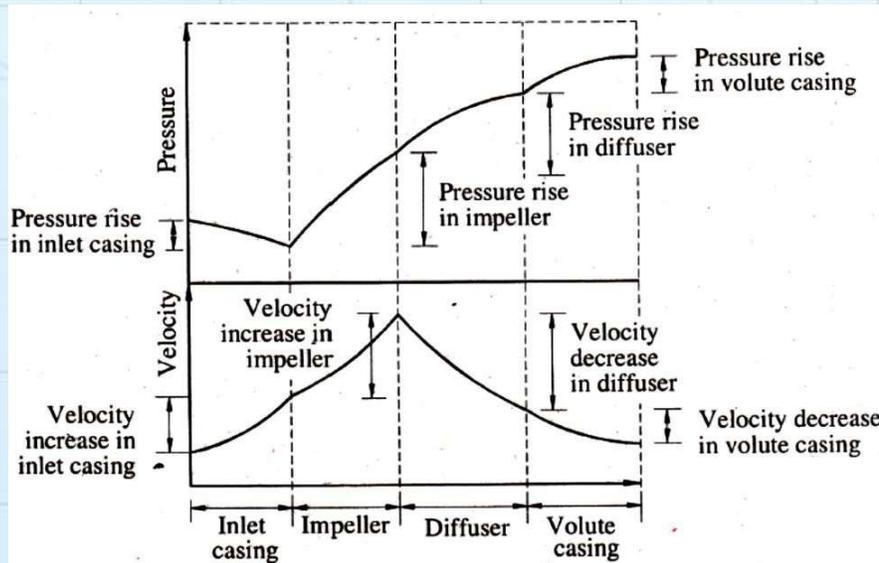

Fig.7.6 – Pressure and velocity variation across centrifugal compressor
- ▶ Air enters the compressor at mean radius with a low velocity V_1 , and atmospheric pressure P_1 as shown in Fig. 7.6.